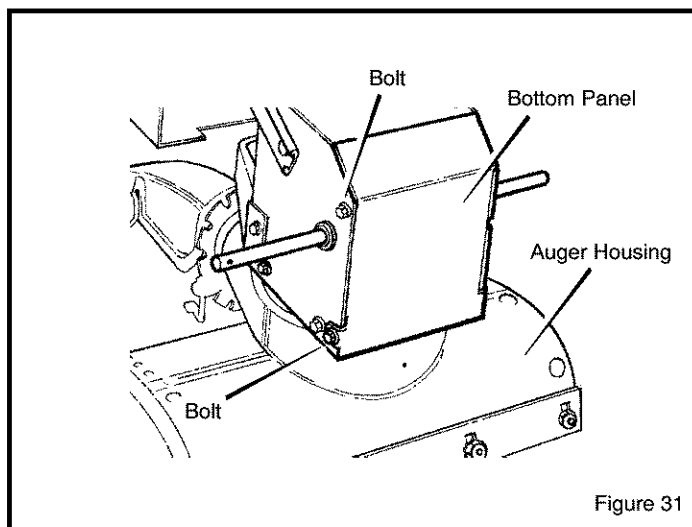

Figure 31
2. Loosen the **bolts** on each side of the **bottom panel** (see Figure 31).
13. Install the **bottom panel** (see Figure 31).